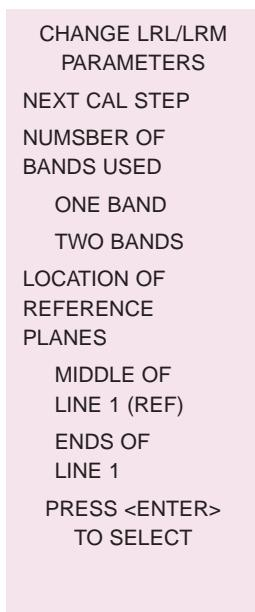

Figure 12
- **Step 6b:** Select **ONE BAND** for a two-line or one-line/one-match calibration (Figure 12).